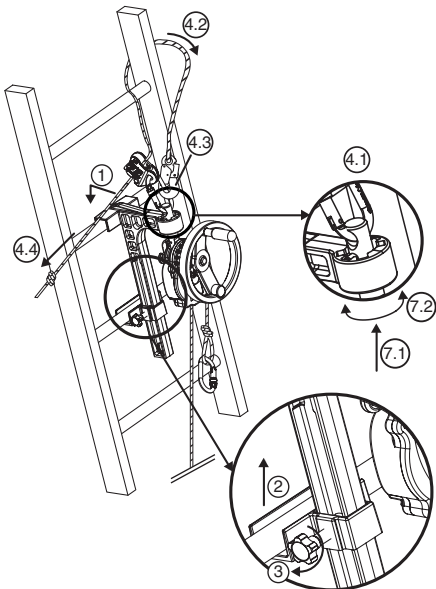

Fig. 6
#### 6.3.2. Derope™ UP B descender (Fig.6)
1. Place the large locking bracket on the ladder bar in the position chosen to carry out the rescue operation above the person to be evacuated (Fig.6, 1).
2. Push up the locking slide at the ladder bar immediately below the bar receiving the large bracket (Fig.6, 2).
3. Tighten the locking pin securing the slide using the clamping knob located on the side of the bracket (Fig.6, 3).
- Secure the connector of the adjustment device LCM 05 in the hole at the top of the fastening pin (Fig.6, 4.1).
- Run the belay lanyard around the ladder bar located above the bracket, going around one of the ladder uprights (Fig.6, 4.2).
- Connect the belay lanyard connector in the connector of the adjustment device LCM 05 (Fig.6, 4.3).
- Tension the belay lanyard by pulling on the free strand (Fig.6, 4.4).
7. Align the Derope™ descender as may be required, modifying the position of the fastening pin in the indexing device (Fig.6, 7.1 – 7.2).